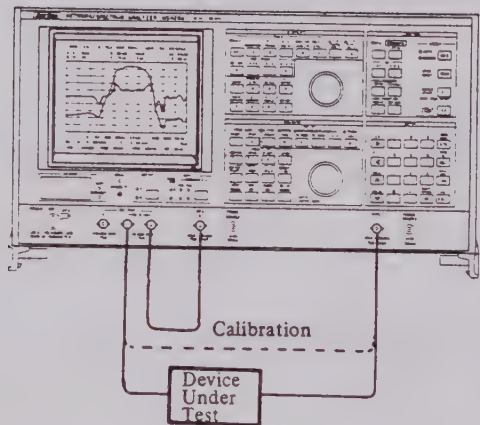

Fig. 3.3 Magnitude Measurement Connections
- 8 Connect OUTPUT B to INPUT T directly (dotted line in Fig. 3-3) and press the $\boxed{X \rightarrow S}$ key.